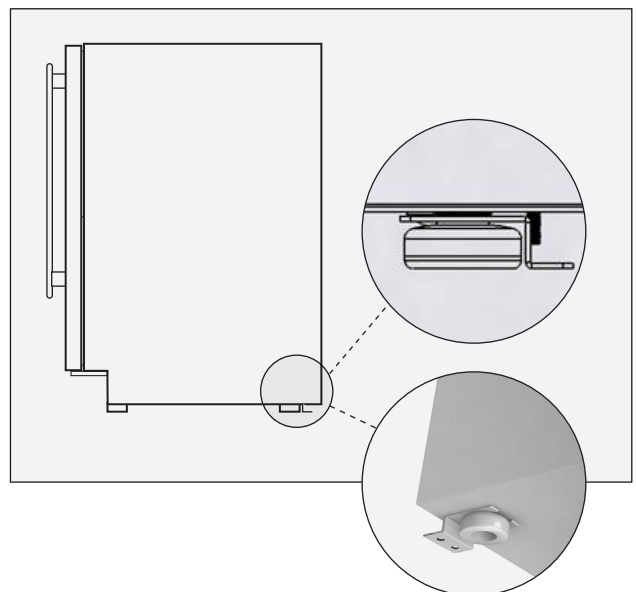

FIG. 3. Be sure the rear leveling legs slide into the brackets.
6. Carefully position the unit in its final installation location. Be sure the rear leveling legs slide into the anti-tip brackets. See fig. 3.